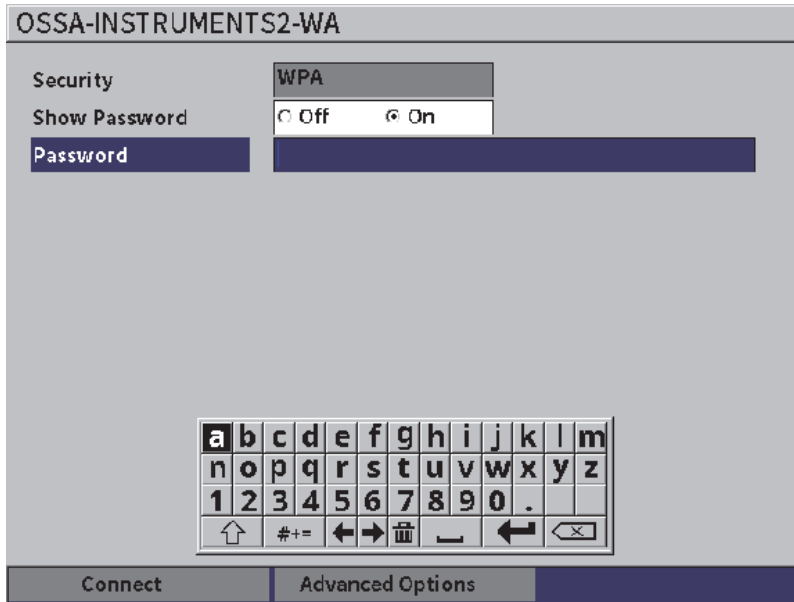

Figure 10-2 Wi-Fi secure logon page
- a) If the network you select requires a password, the log on page for that network is displayed (see Figure 10-2 on page 167):
- (1) Select and fill in the **Password** box, and then highlight **Connect**.
- (2) Press the Enter key to make the connection.